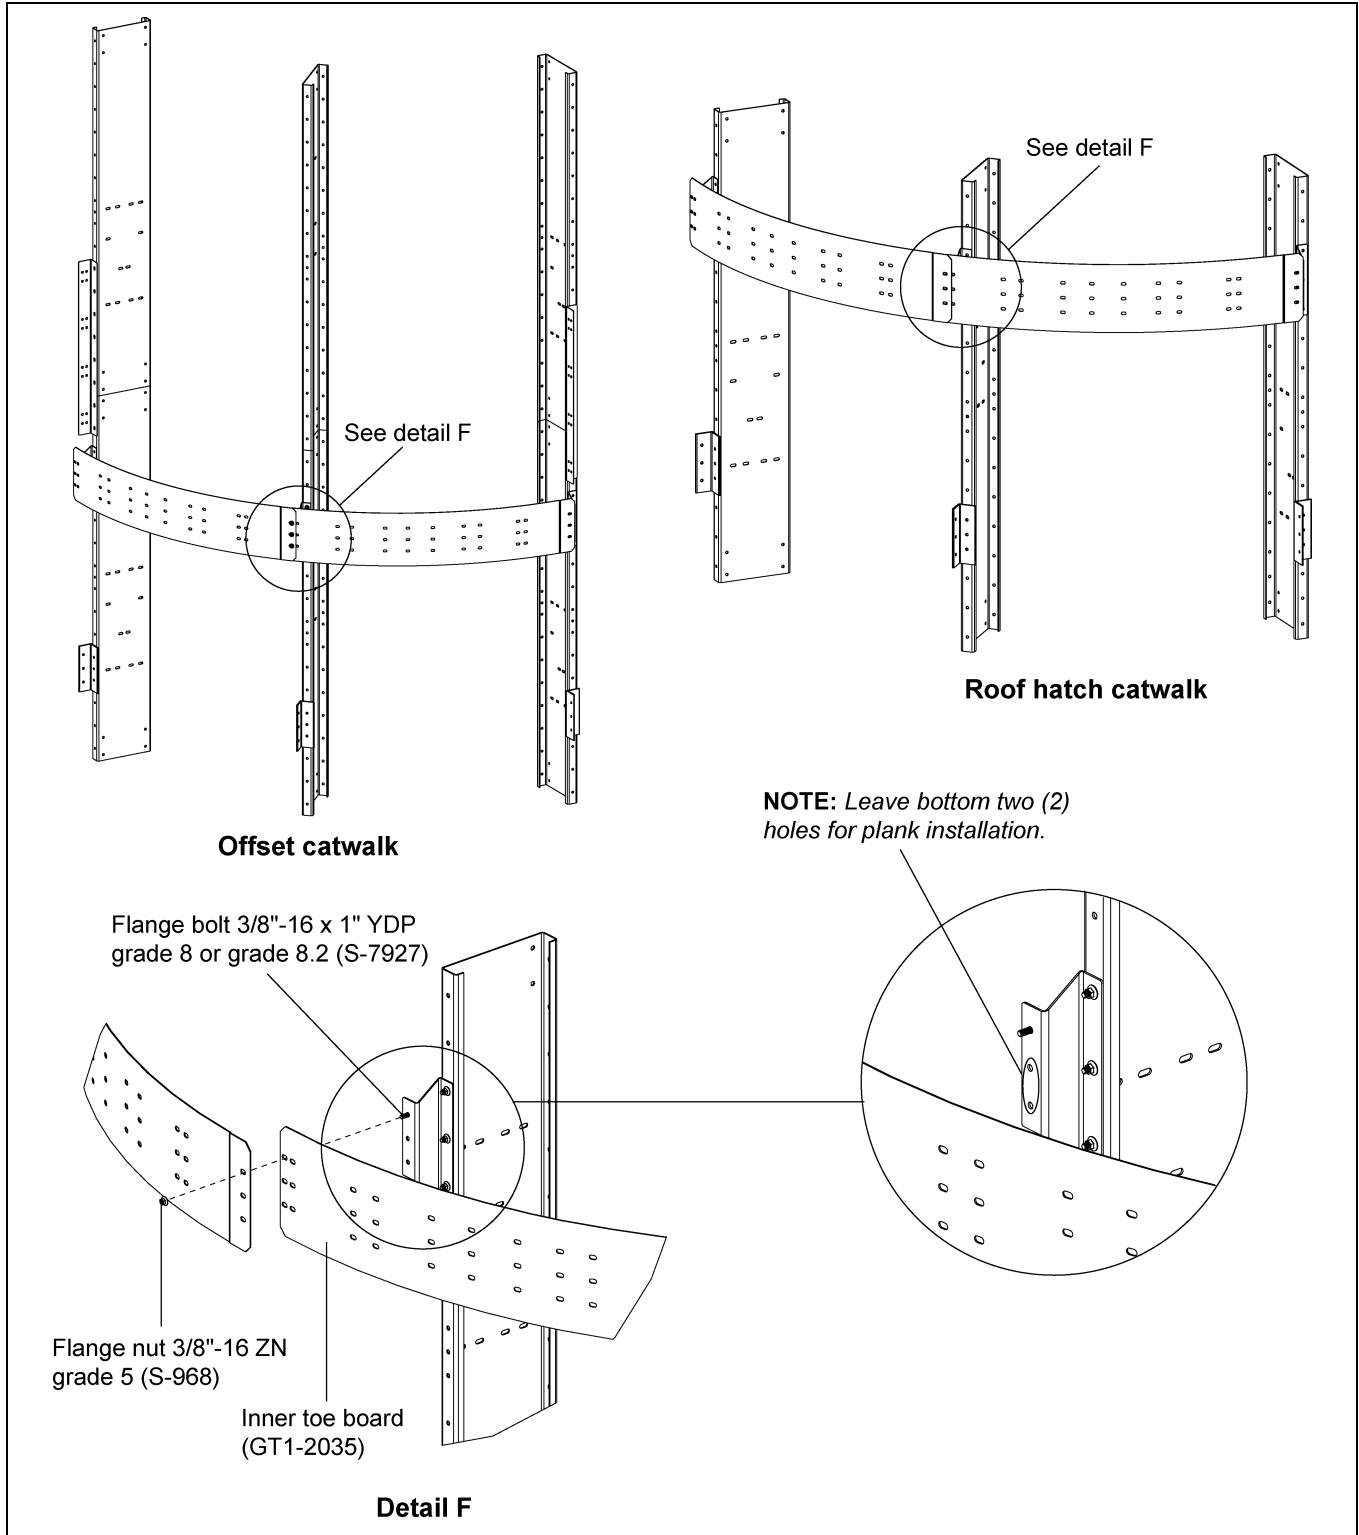

Figure 6K Inner Toe Board Installation for Offset and Roof Hatch Catwalks
1. Install the inner toe board (GT1-2035) to the Z-clips (GT1-2036). (See Figure 6K.)
2. All the toe boards should be installed between the Z-clips using 3/8"-16 x 1" YDP grade 8 or grade 8.2 bolts (S-7927) and 3/8"-16 ZN grade 5 nuts (S-968). (See Figure 6K.)